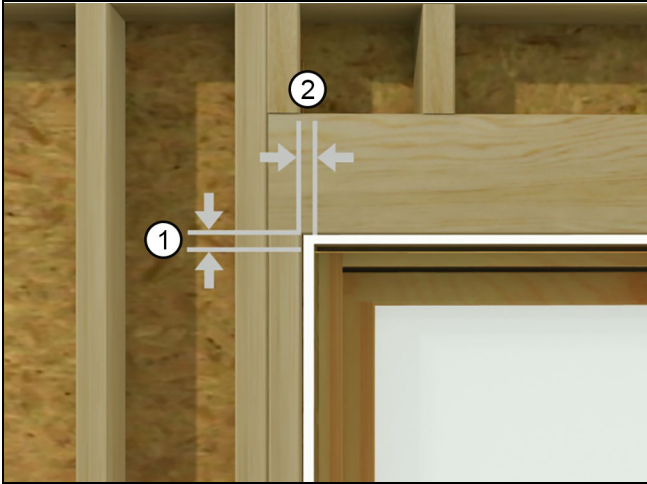

Figure 2
1. Rough openings (RO) should be 1/2" (13) higher and 1" (25) wider than the outside measurement of the frame (1/2" on each side of the frame). See Figure 2.